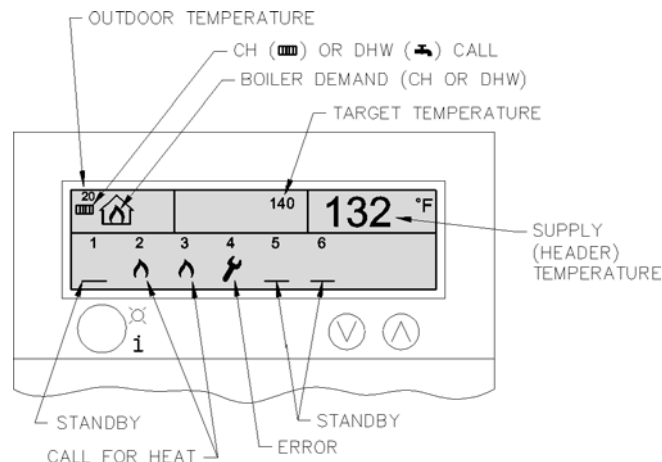

Figure 8.57: Cascade Status Screen
- b) Pressing the down arrow will display the cascade system information including the master supply sensor temperature and the status of all boilers with which it is communicating. See Figure 8.57 for the cascade status screen illustration.